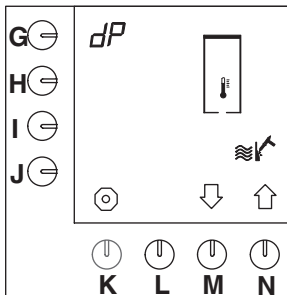

Fig. 21 Starting the descaling programme hot water system
- The descaling programme appears on the display (fig.21).
- Hold down programming key (G.) until fig. 21 re-appears on the display.